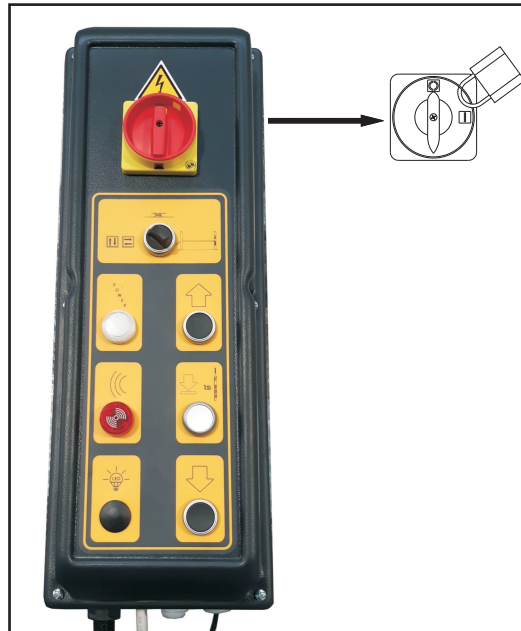

Fig.60
- The main switch on the control panel **MUST BE LOCKED OUT IN POSITION "0"**; see figure 60.